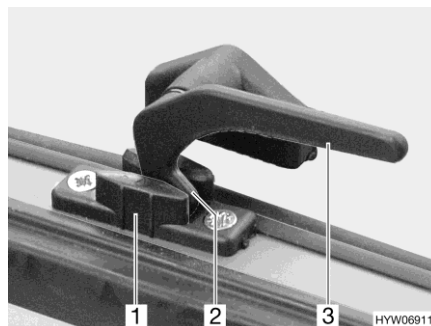

Fig. 26 Catch lever ("continuous ventilation" position)
- "Continuous ventilation" (Fig. 26)
- Turn all catch levers (Fig. 26,3) a quarter turn towards the centre of the window.
- Return all catch levers to their initial position. The locking catch (Fig. 26,2) has to be moved into the recess of the window catch (Fig. 26,1).